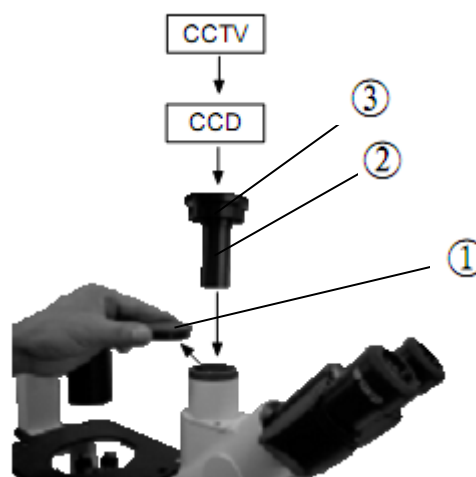

Fig.32
6-1-2 Installing the video set (Fig.32)
1. Take away the dust cap① on trinocular tube.
2. Inset the video accessory② into trinocular tube and screw the pressing ring③ tightly.
3. Screw the mount adapter with CCD camera into the video accessory port② in the direction as shown in Fig.32.
6-1-3 Focus (Fig.32)